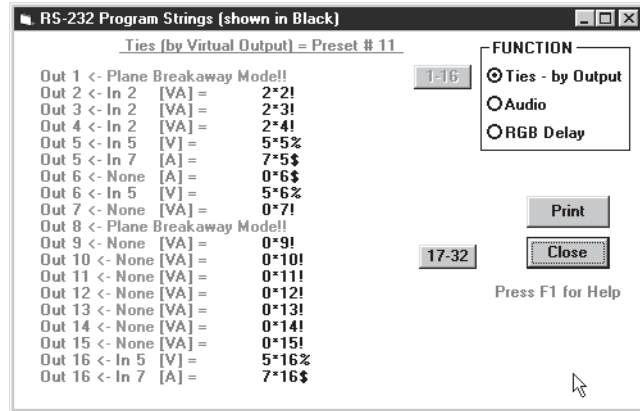

FIGURE 3-10.A
- To see the strings, click on the **TOOLS | SHOW RS-232-STRINGS** menu to show the Program Strings screen (Figure 3-10.A).